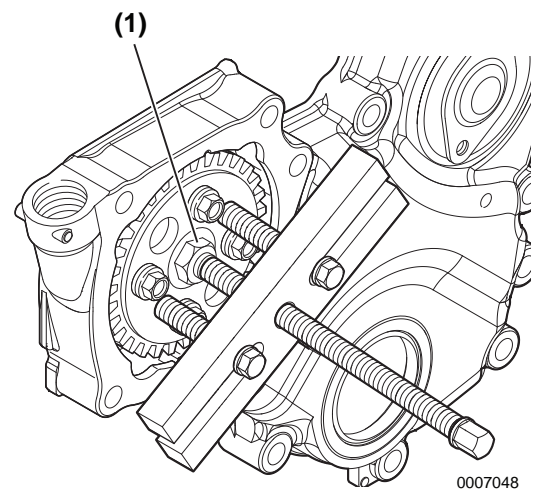

Figure 7-10
16. Remove the injection pump drive gear and hub from the injection pump drive shaft as an assembly using an appropriate gear puller **(Figure 7-10)**.
17. Once the fuel injection pump drive gear and hub assembly have “popped” loose from the tapered fuel injection pump drive shaft, carefully remove the drive gear nut **(Figure 7-10, (1))** and remove gear and hub assembly.